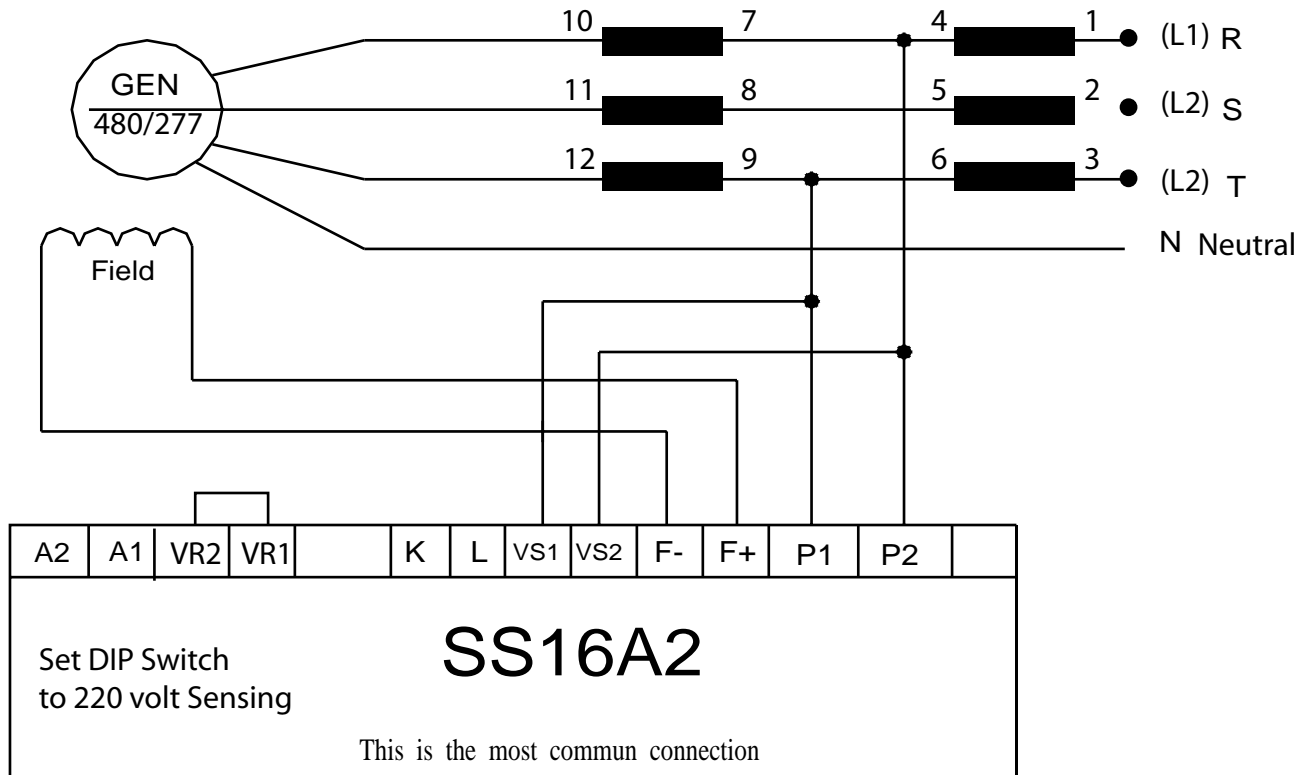

Figure 2 220V Connection
4.1 Installation Notice: (refer to Figure 2 and 4)
F+, F-, P1, P2, VS1, VS2 not connected	Reference from Figure 2 and 3 connection